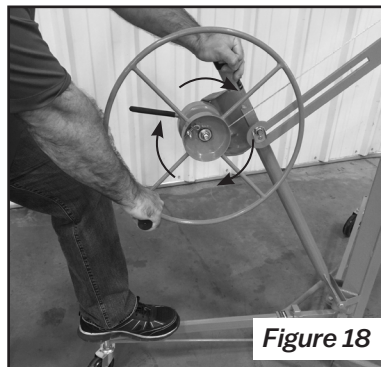
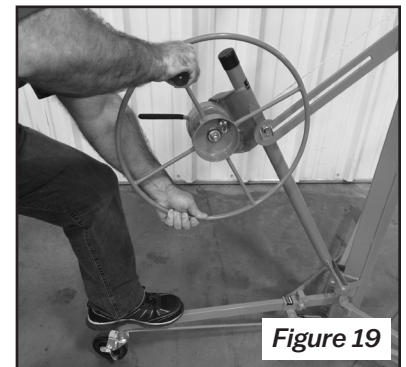

Figure 18
Figure 19
1. Apply firm downward pressure to the rear leg with your foot and hold the post with your off hand for added stability (Figure 18).
2. Crank the winch wheel in the direction shown in Figure 18. For heavier loads requiring more cranking effort, use both hands on the wheel as shown in Figure 19.